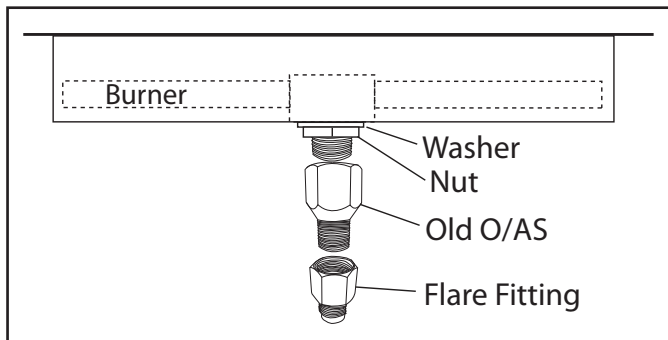

Fig. 1 Removing old OAS
6. Remove the 1/2" NPT Female to Male flared fitting from the old OAS (see figure 1).